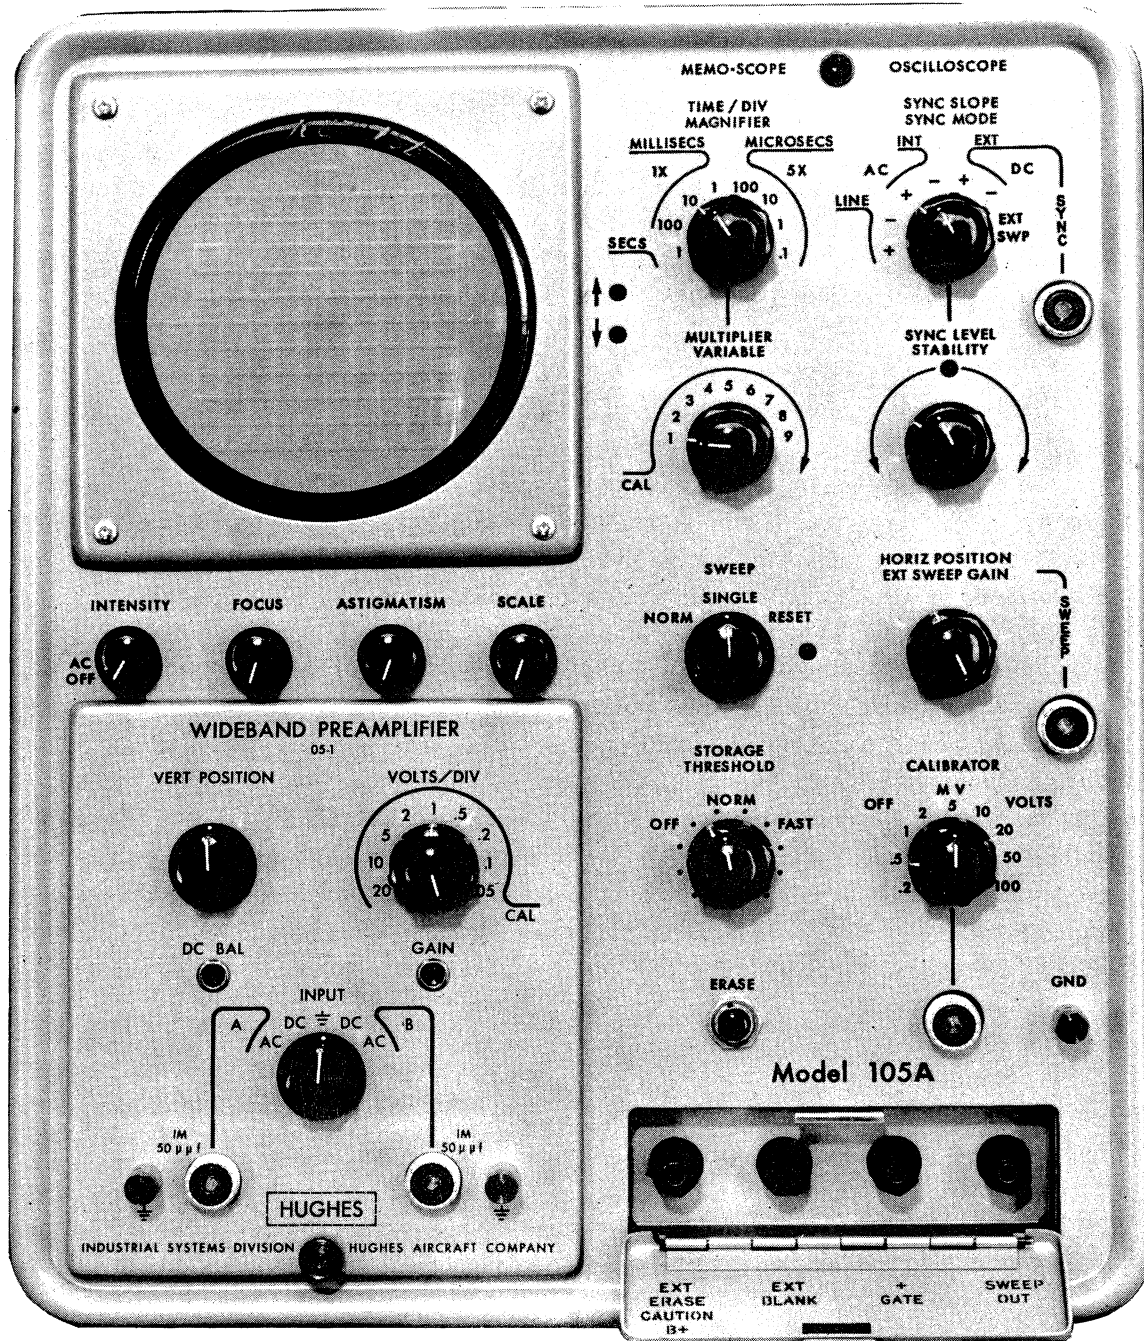

FIGURE 3 FRONT PANEL CONTROLS
- Figure 3. Front Panel Controls